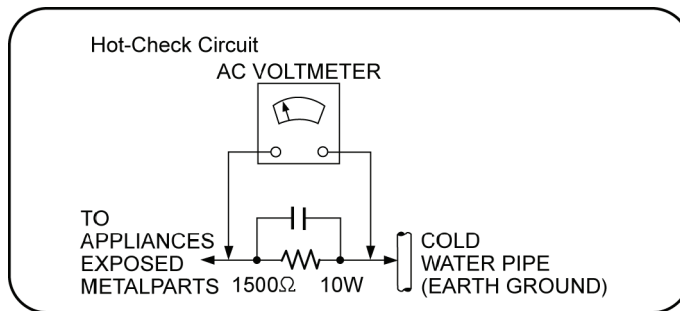

Fig. 1
1.1.2. Leakage Current Hot Check (See Figure 1.)
2. Connect a $1.5k\Omega$, 10 watts resistor, in parallel with a $0.15\mu F$ capacitors, between each exposed metallic part on the set and a good earth ground such as a water pipe, as shown in Figure 1.